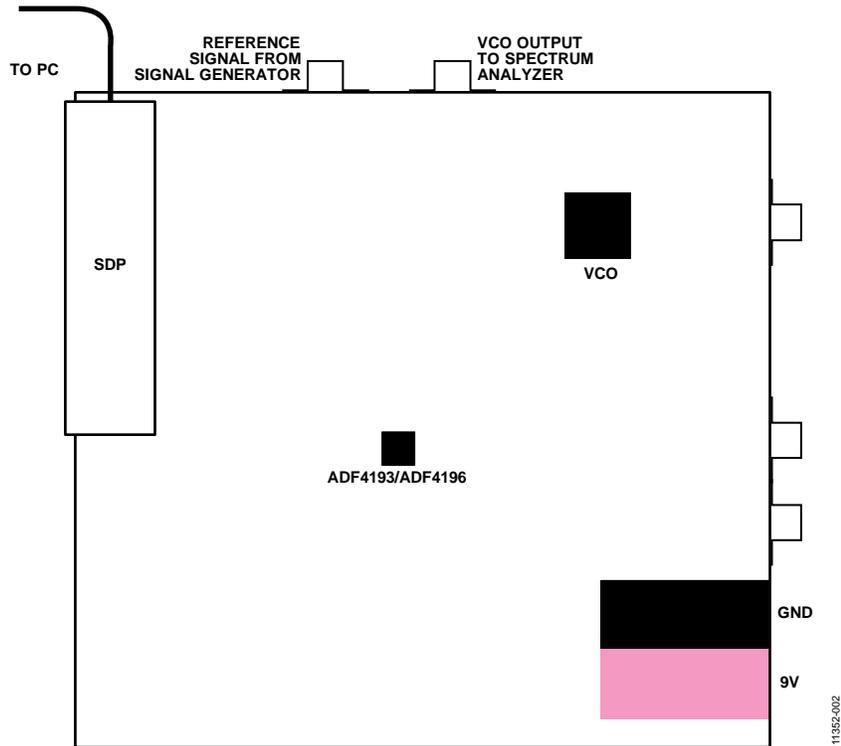
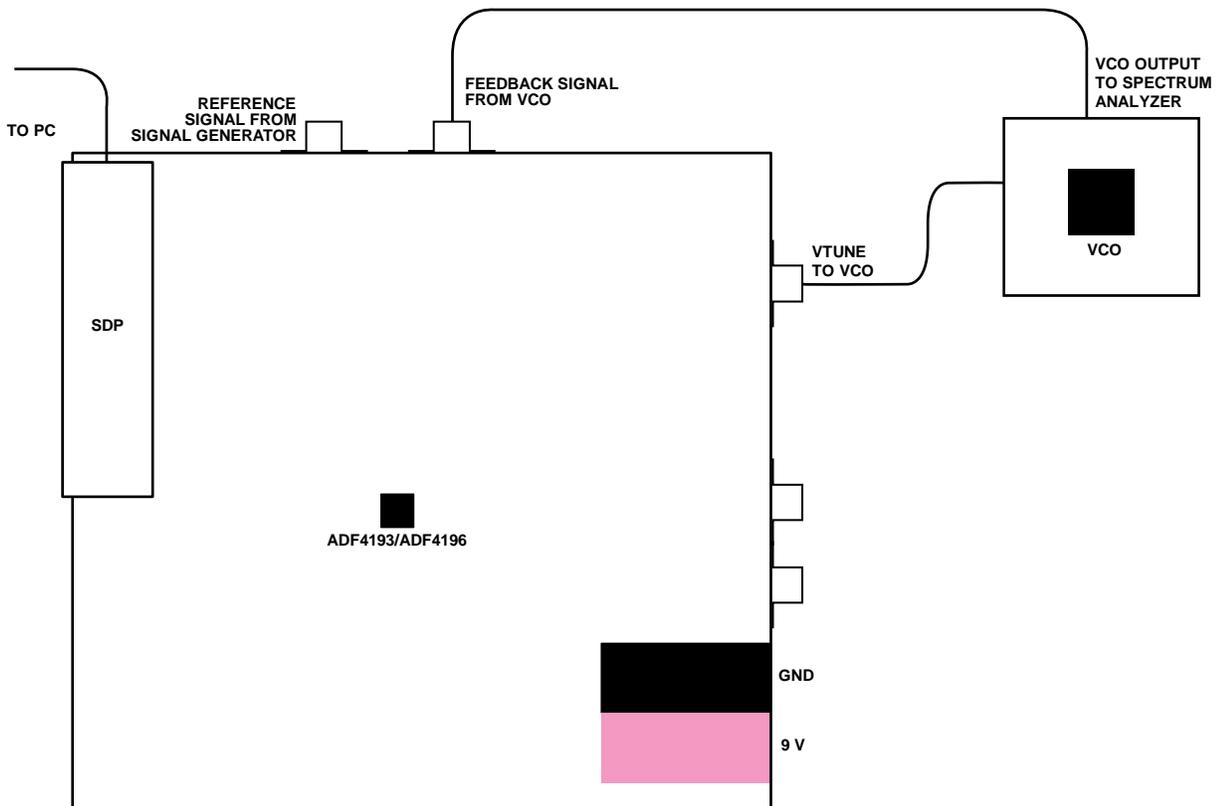

Figure 2. Evaluation Setup Block Diagram, Using On-Board VCO
Figure 3. Evaluation Setup Block Diagram, Using External VCO
1. Set up the circuit as shown in Figure 2 or Figure 3.